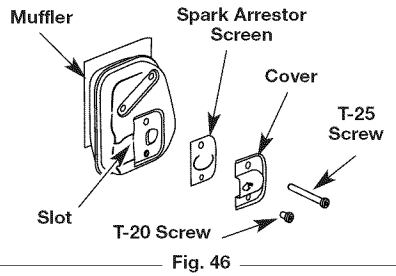

Fig. 46
2. With a flat blade screwdriver or Torx T-20 bit and a T-25 bit, remove the screws attaching the cover to the muffler (Fig. 46).